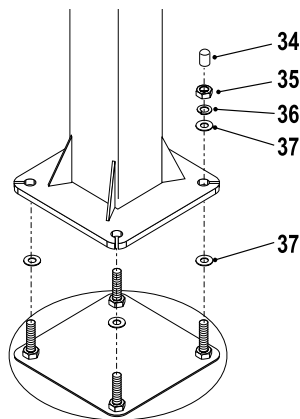

Figure 8
11. Put a flat washer (#37) on each anchor bolt. Lift post onto anchor system and secure with one flatwasher (#37), one lock washer (#36) and one hex nut (#35) for each anchor bolt. See Figure 8. Tighten all four hex nuts tight.